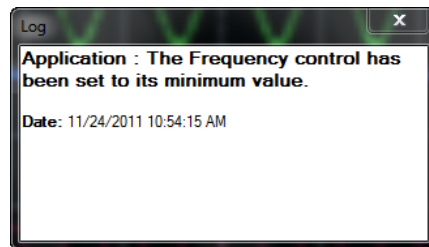

Figure 2-130 Log dialog
- 4 The Log dialog is displayed as shown in Figure 2-130.